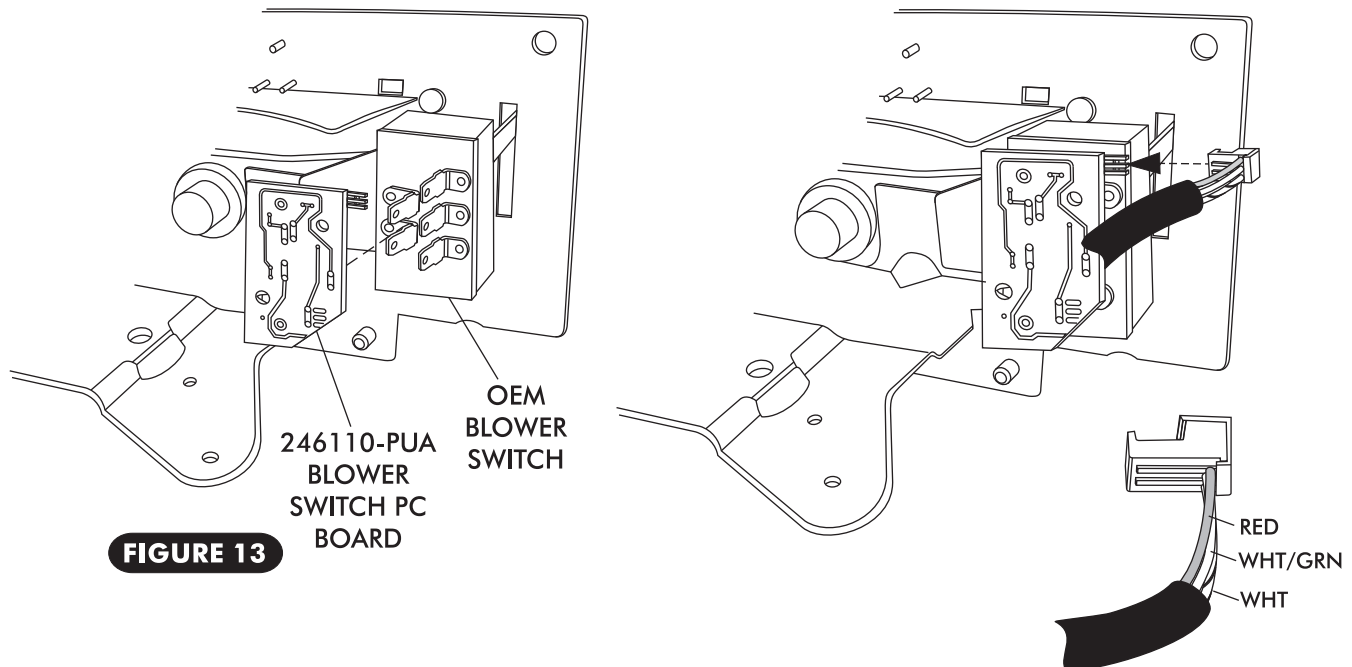

FIGURE 13
- INSTALL THE BLOWER SWITCH PC BOARD ON O.E.M. BLOWER SWITCH AS SHOWN IN FIGURE 13 BELOW.
- PLUG IN THE REMAINING CONNECTOR WITH THE RED, WHT & WHT/GRN WIRES INTO THE BLOWER SWITCH PC BOARD AS SHOWN IN FIGURE 13 BELOW.